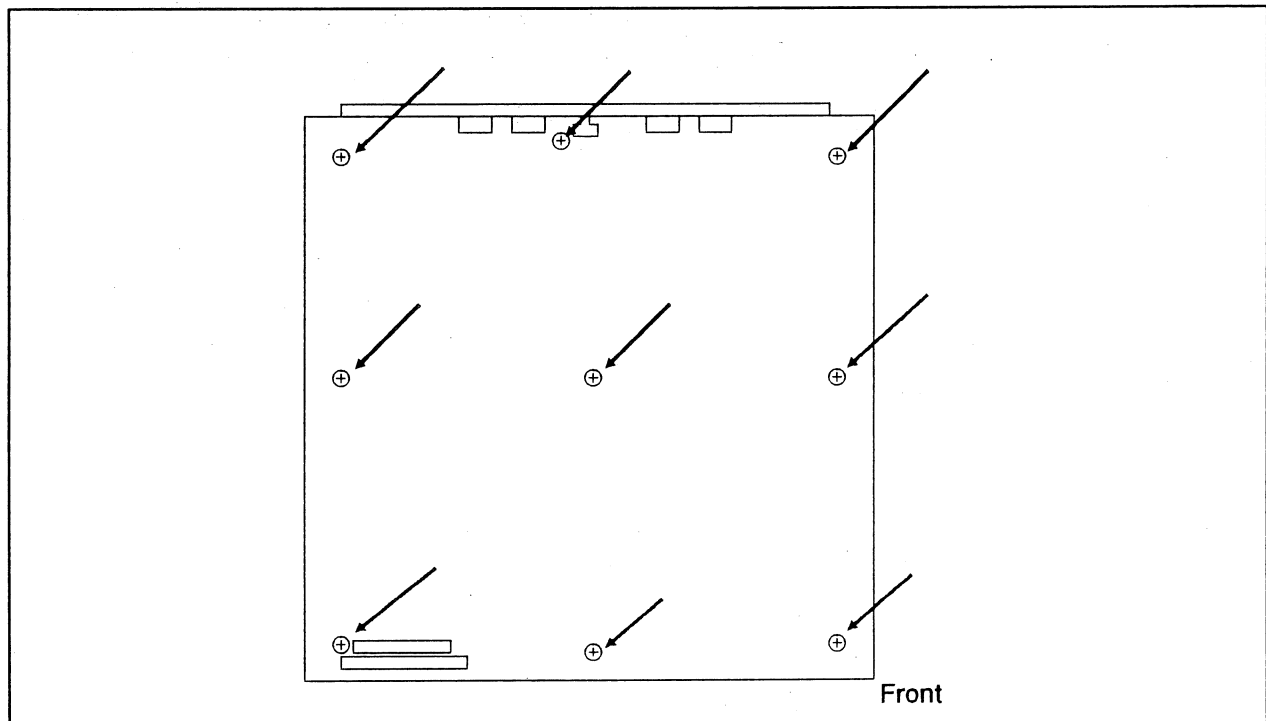

Figure 3-9. Removing the Mother Board Screws
- 11** Remove the nine screws that hold the Mother Board to the platform. See Figure 3-9.